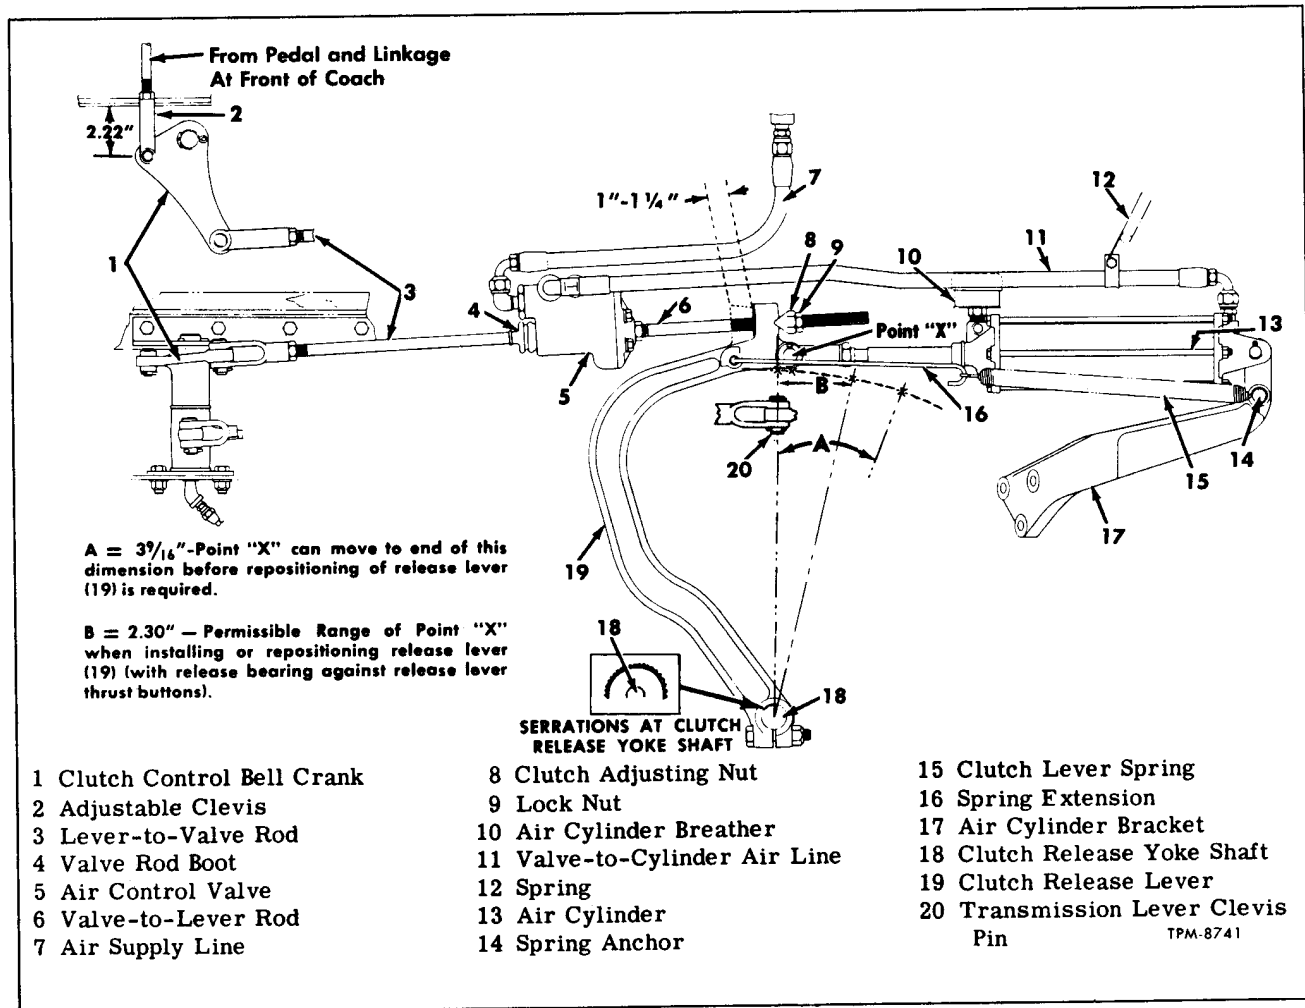

Figure 2—Clutch Control Linkage (in Engine Compartment)
Figures 2 and 3 show the clutch release mechanism. Clutch release is affected by pedal pressure which actuates air valve in engine compartment to admit air pressure into air cylinder, which assists in releasing clutch. Release mechanism in clutch housing consists of a yoke installed on cross shaft and clutch release bearing and support assembly (fig. 8).
3. Always use return spring (7) as specified in Parts Book.
4. When replacing control rod (8), rod end clevises or bell crank (15), adjust rod end clevises so that center of pin hole in bell crank (15) is distance from bulkhead shown in figure 2. This will give best leverage for disengaging clutch with light pedal pressure.
CAUTION: Always make adjustments as later described at linkage in engine compartment after replacing any items shown in figure 2.
CONTROL LINKAGE AND UNITS IN ENGINE COMPARTMENT (Fig. 2)
Adjustment to compensate for normal clutch facing wear is made at the clutch release lever in engine compartment. This adjustment must be made when inspection indicates need for adjustment. The 1 to 1-1/4 inch free movement of release lever (fig. 2) must be maintained to assure clearance between release bearing and thrust buttons on clutch release levers, and to provide full disengagement of clutch when clutch pedal is near floor.
Key numbers in text refer to figure 2.
1. Unhook clutch lever spring (15).
2. Move lever (19) from point of contact with wedged end of nut (8) toward control valve (5). If lever free movement is not within the 1 to 1-1/4-inch range shown in figure 2, make adjustment as instructed in step 3. below. Adjustment should be maintained as closely as possible within this range to provide ideal clutch operation.
3. Loosen lock nut (9), and turn adjusting nut (8) as necessary to provide 1 to 1-1/4 inches free-travel of lever (19). Be sure wedge end of adjusting nut (8) is aligned with V-notch in release lever (19), then tighten lock nut. After tightening lock nut, recheck control valve for binding both in the engaged and disengaged positions. There must be no twisting force on valve plunger.
As clutch facings wear, point "X" (fig. 2) normally moves toward air cylinder (13) with each succeeding release bearing clearance adjustment. This point, which is the centerline of clevis pin attaching air cylinder clevis to release lever, must be within the dimension shown for "A" in figure 2 when clutch is engaged. To determine if lever (19) should be repositioned, shift transmission to neutral, then measure distance from center of clevis pin (20, fig. 2) to point "X" when clutch is engaged. If the distance is more than 3-9/16 inches, release lever must be repositioned on release yoke shaft (18, fig. 2) as follows:
Key numbers refer to figure 2 unless otherwise indicated.
1. Place transmission gearshift lever in neutral, and unhook release lever return spring (15). Remove clevis pin which attaches clevis to release lever at point "X" and disengage clevis from lever (19).
2. Loosen clamp bolt securing release lever (19) to shaft (18), and mark lever (19) and end of shaft (18) to show original relationship.
3. Pry release lever (19) off shaft (18), move top of lever toward air control valve (5) one serration from original position as marked in step 2, and reinstall lever on shaft.
4. Check position of point "X" which must be within the dimension shown for "B" in figure 2, with release bearing contacting clutch release lever thrust buttons. Tighten release lever clamp bolt to 35 to 45 foot-pounds torque. Connect air cylinder rod clevis to release lever (19) with